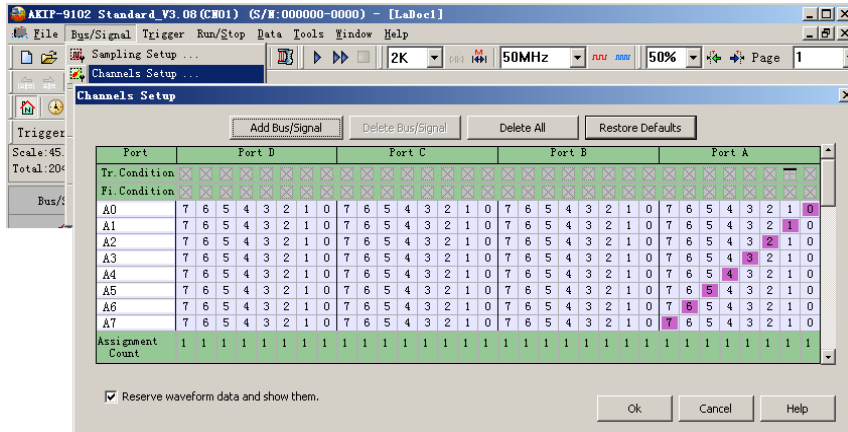

Fig 4-25 – Channels Setup
The dialog box shown in Fig 4-25 will appear.
3. Restore Defaults: Click **Restore Defaults** to restore the dialog box of Channels Setup as shown in Fig 4-25.